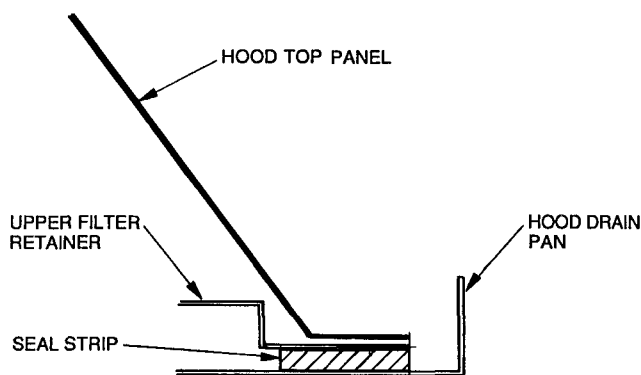

Fig. 23 — Seal Strip Location
1. Attach seal strip to upper filter retainer. See Fig. 23.